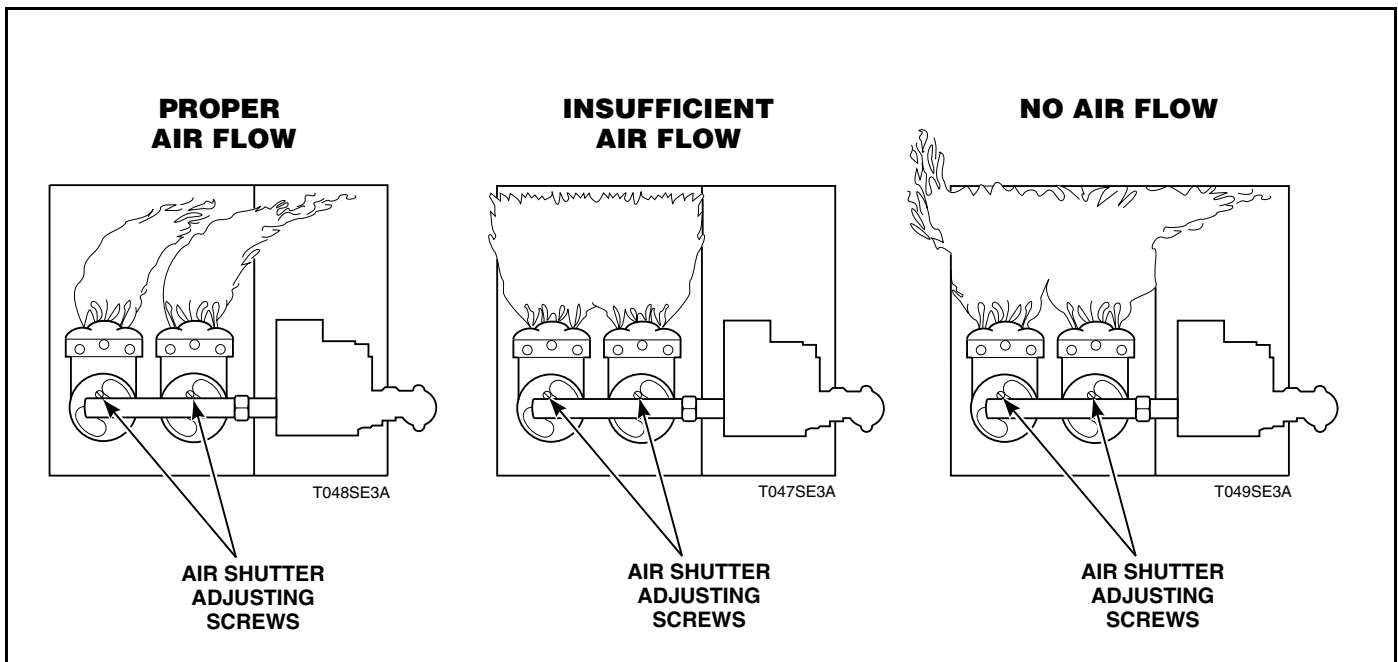

Figure 16
2. Start the tumbler and check the flame pattern. Correct air and gas mixture is indicated if the flame pattern is primarily blue, with small yellow tips, and bends to the right of the heater section. Too little air is indicated if the flame is yellow, lazy and smokey. Refer to *Figure 16*.
3. To adjust the air shutter, loosen air inlet shutter adjusting screw. Refer to *Figure 16*.
6. If the shutter is correctly adjusted, but the flame pattern is straight up, insufficient primary air is flowing through the tumbler and airflow switch is improperly set. A flame pattern that flares to the right and left indicates no air is flowing through the tumbler. Refer to *Figure 16*.